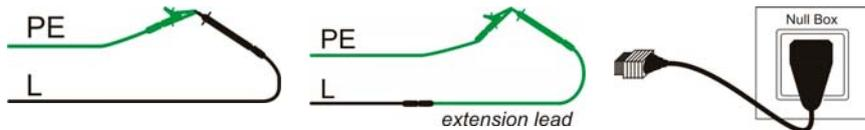

Figure 5.12: Shorted test leads
- ❑ **Connect** test cable to the instrument and short the test leads together appropriately (see figure 5.12).